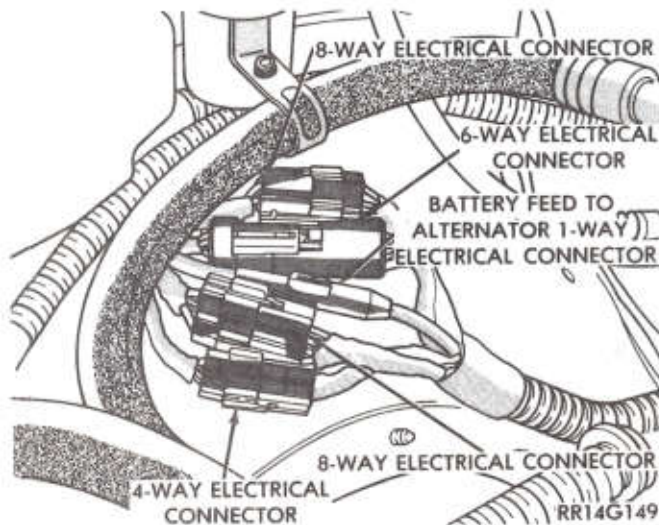

Fig. 12—Engine Harness to Main Harness
(17) Verify that vacuum connection at Canister Purge Solenoid is secure and not leaking (Fig. 12).
(19) Verify engine harness to main harness connections are fully inserted (Fig. 12).